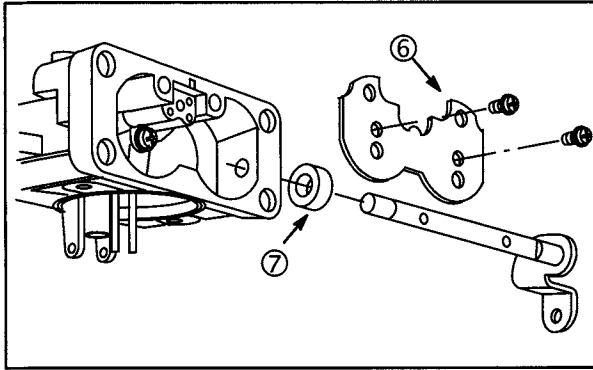

Fig. 126
- Assemble new seal (7) to choke shaft and insert into carburetor body, **Fig. 126**.
- Install choke plate (6).